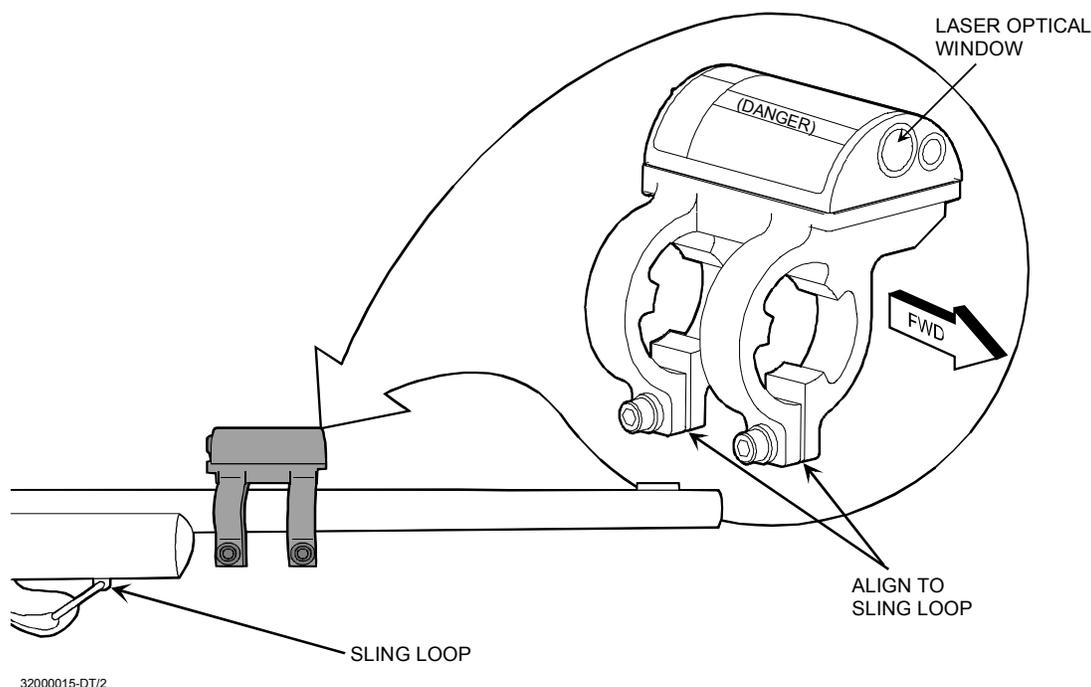

Figure 2-8. M24 and M40 SAT.
2.3.1.3.2 M24 and M40 SAT Installation. (See Figure 2-8.)